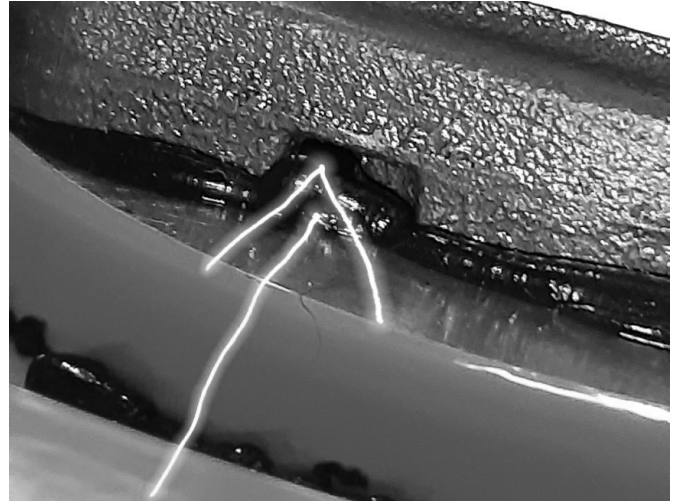

Figure 3
3. With a flathead screwdriver, pry the motor away from the plate using the notches in the base of the motor as shown in Figure 3.